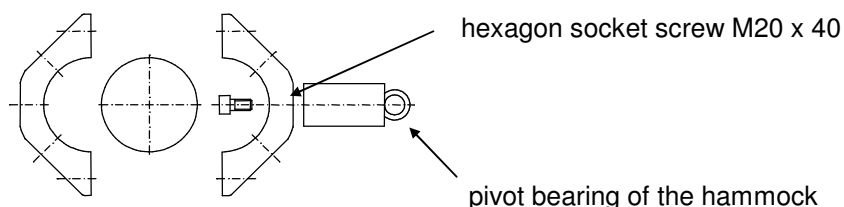

Figure 9: Connecting a hammock to a Terranous clamp
- A. Using a hexagon socket screw (M20 x 40), connect the Terranos clamp (the half with a \varnothing 21 drill-hole) to the pivot bearing of the hammock (refer to Figure 9). Tighten the screw with a high strength screw driver to avoid unauthorised removing. Now, connect both sides of the Terranos clamps together around the Terranos posts with hexagon socket screws (M10 x 45). The correct attachment point on the post was marked during foundation preparation and is also described in the set of drawings provided.